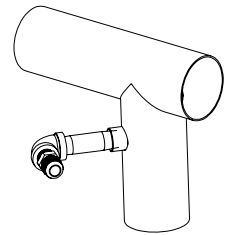

Figure 4: Drain dump assembly
11. Insert the new enclosed drain dump tube section with the attached fitting towards the rear of the fryer. Secure with existing sleeves. See Figure 4.
14. Attach the 17 ½" flexline from the front of the assembly to the new drain dump fitting installed in step 11. See Figure 4.